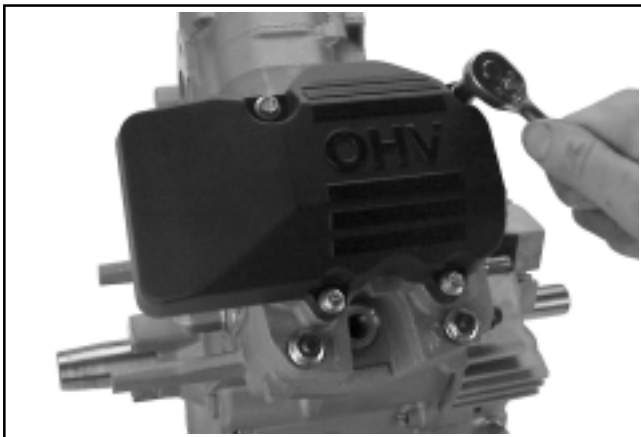

Figure 9-62. Removing Valve Cover Screws.
1. Remove the four hex. flange screws securing each of the valve covers. Note the differences between the covers, and the lengths of the screws, for proper installation later. See Figure 9-62.